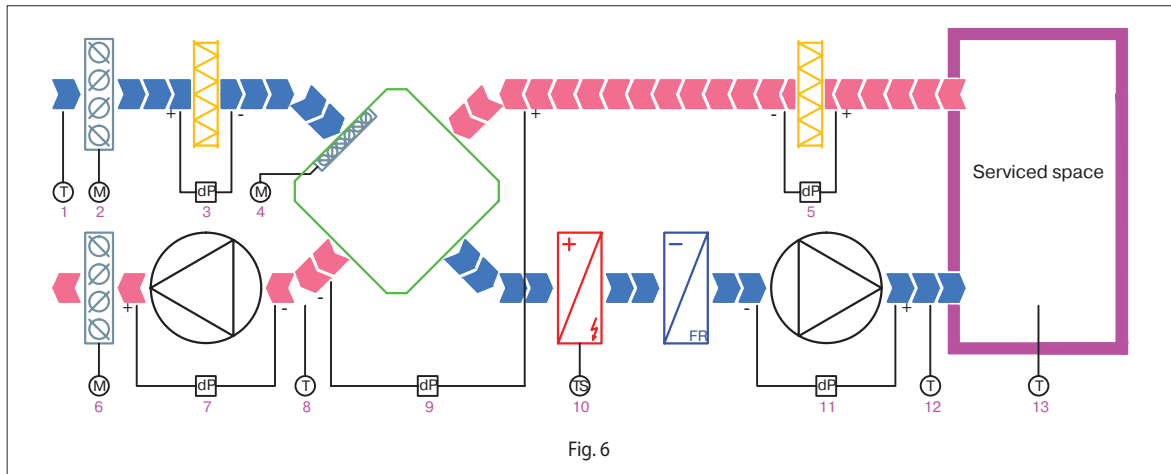

Fig. 6
On receiving the «Start» signal, the logical device (LD) queries the inputs for any alarm messages and applies voltage to inputs 2 and 6 (Fig. 6) of the outdoor and exhaust air dampers.